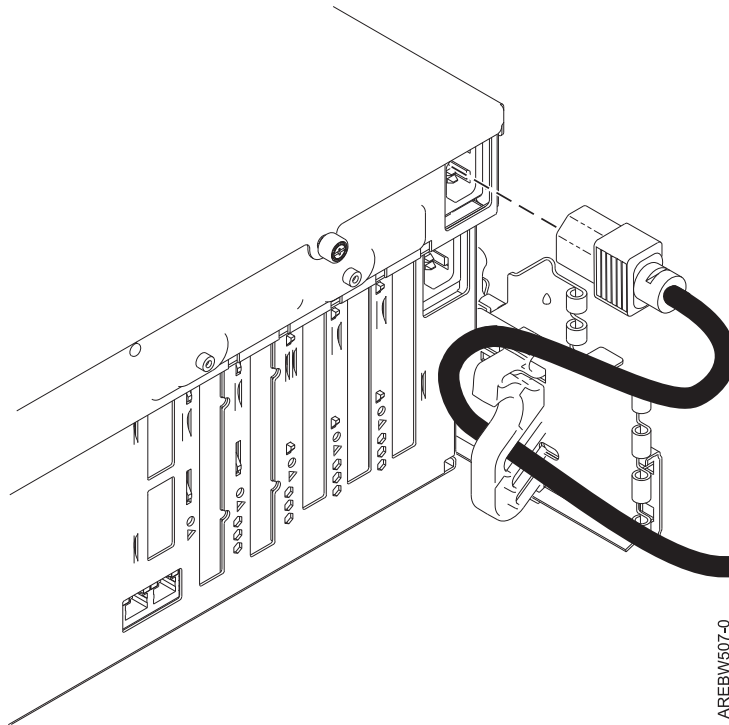

Figure 32. Routing system power cord
1. While facing the rear of the system unit, note the bottom tab of the cable-restraint bracket. Turn the cable-restraint bracket counter-clockwise to a horizontal position, and insert the bottom tab of the cable-restraint bracket into the bottom hole in the rail. Then rotate the cable-restraint bracket clockwise to the vertical position as shown in Figure 32 on page 40. Insert the system power cord through the cable-restraint bracket as shown in this figure. Then press down on the top of the bracket and insert the top tab into the top hole.